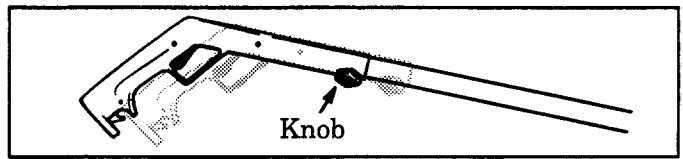

Figure 11
- **To adjust length of unit,** loosen knob on trigger handle and slide trigger handle up or down the tube. Figure 11. Firmly hand tighten the knob.